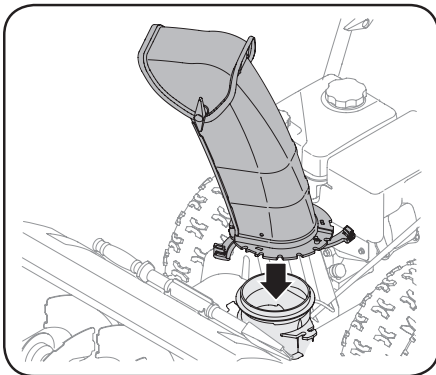

Figure 2-13
1. Position chute assembly over base. See Figure 2-13.